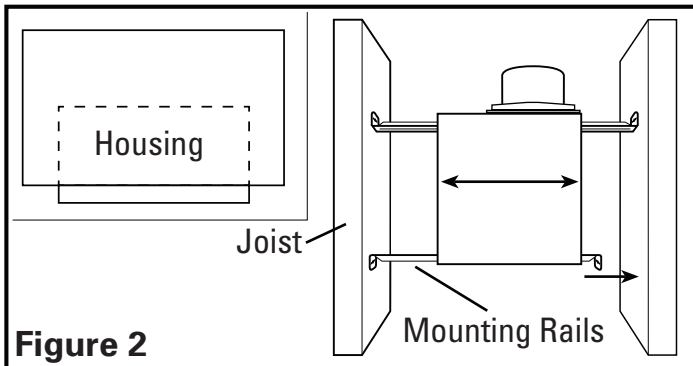

Figure 2
1. Install the rails on the housing and position the housing next to the joist. Line up housing so that it will be flush with the finished ceiling. Secure the ends of the rails with screws (not included) to the joists and slide the housing into the final position (Figure 2).